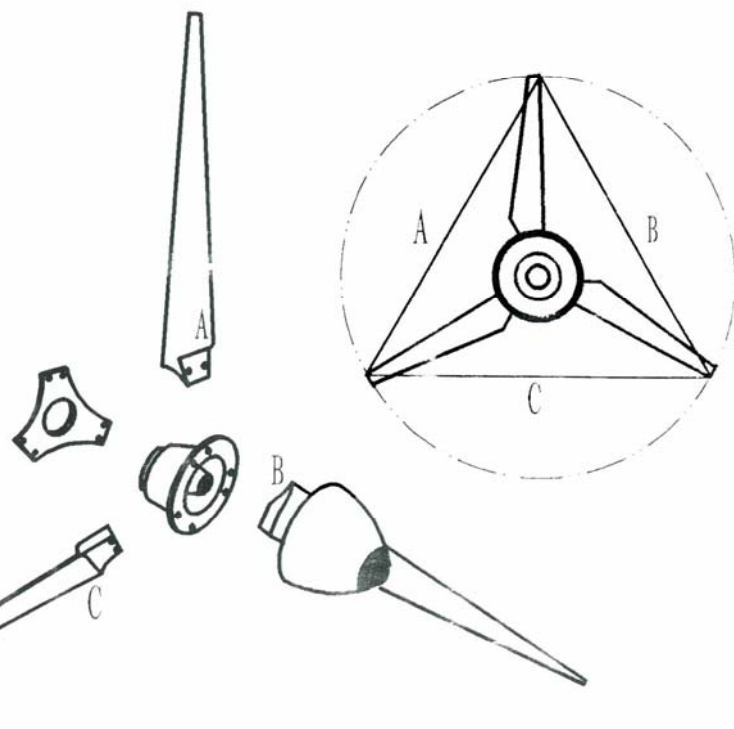

Fig 7.
4.10 Before leaving the factory, every rotor had been assembled and passed the balance adjustment. For easy transport, the rotor had been disassembled. When reassembling the rotor, please check the marks on the parts, so as to make them return to the former positions, then fit the M10×80 screws, washers, M10 self-locked nuts one by one. Tighten the nuts with a small force first, then measuring the distances between the centre point to the tip end of blades a, b, c, the distance among the three sizes should less than 5mm, then tighten the nuts firmly. The tighten torque should be 40 – 45 N.m (see fig.7).